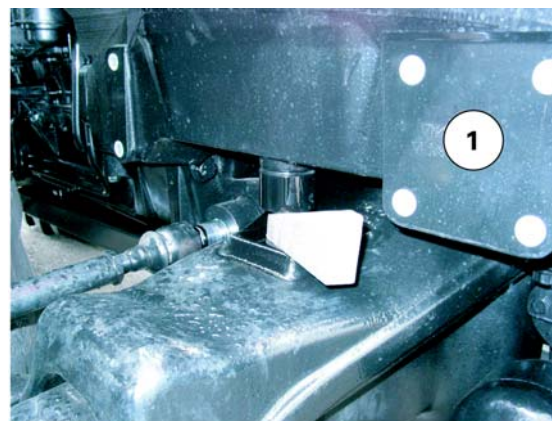

Fig. 3
20. Cancel the front axle oscillation (all versions) by sliding an suitable chock in at each side of the support (1) (Fig. 3).